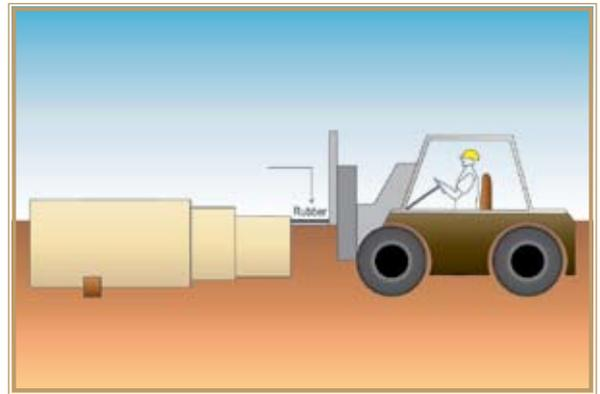

Figure 2.6 - De-nesting
4. For pipes larger than 1200 mm, de-nesting of the inside pipe(s) is best accomplished at a de-nesting station. Typically, this consists of three or four fixed cradles to fit the outside diameter of the largest pipe of the bundle. Inside pipes, starting with the smallest size may be removed by lifting slightly with an inserted padded boom to suspend the section and carefully move it out of the bundle without touching the other pipes (Figure 2.6). Pipes smaller than 1200 mm do not require such stations.